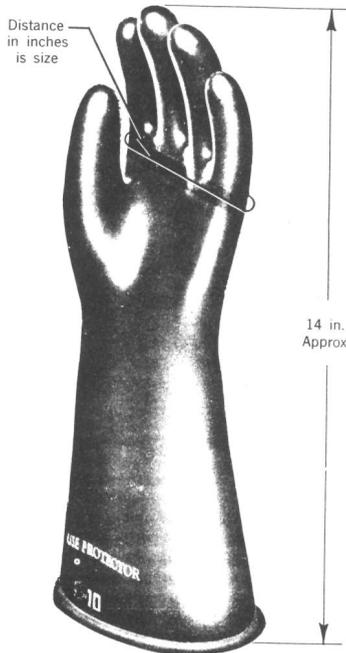

FIGURE 1. Insulating Glove.
2.01 All types of insulating gloves are of the gauntlet type and are made in sizes 10, 11, and 12. The size indicates the approximate number of inches around the glove, measured midway between the thumb and finger crotches. The length of each glove, measured from the tip of the second finger to the outer edge of the gauntlet, is approximately 14". See Figure 1.